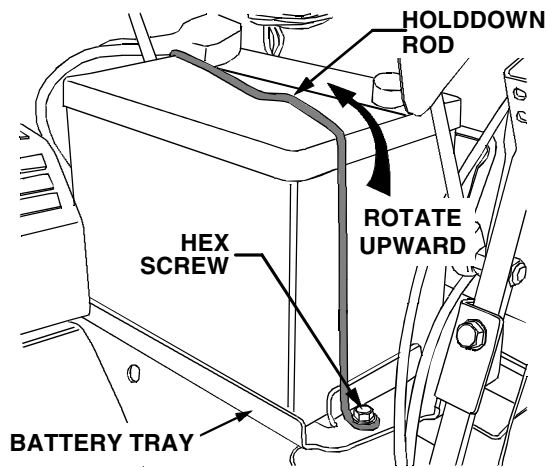

Figure 6-8
2. Remove the hex screw securing the LH side of the holddown rod to the battery tray (Refer to Figure 6-8).